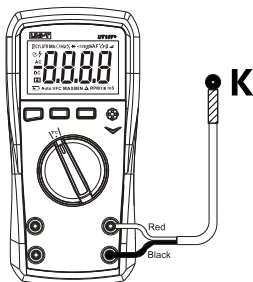

Figure 15
- 2) Insert the K-type thermocouple sensor to corresponding terminal as figure 15, the temperature probe will detect the measured surface, after seconds, read the temperature of measured surface from the LCD directly.